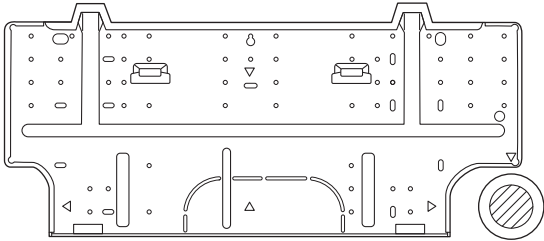

Fig. 3-38
- (1) Attach the rear panel to the wall with the 8 screws provided. (Fig. 3-38)